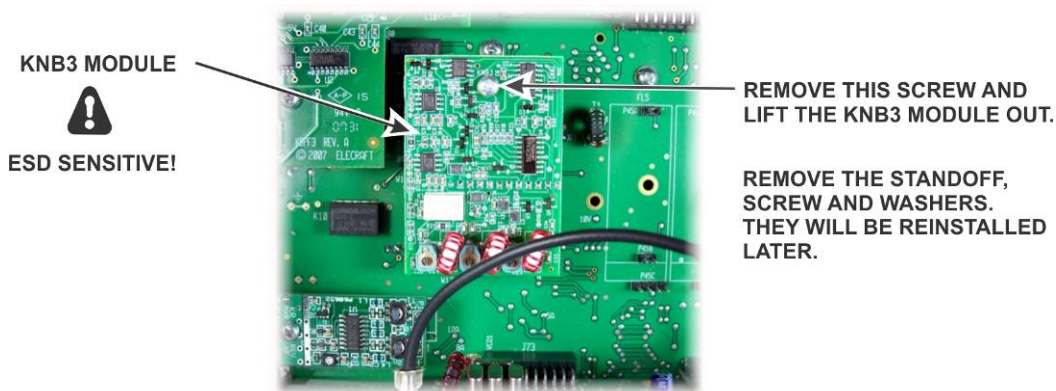

Figure 5. Removing the KNB3 Module.
- ☐ Remove the KNB3 module, the standoff, screw and washers from the RF board (see Figure 5). They will be reinstalled later.
- ☐ Replace the standoff and the KNB3 module you removed earlier (see Figure 5). When mounting the standoff on the RF board, be sure to place one lock washer under the screw head on the bottom of the board, and two lock washers between the standoff and the top of the board. A fourth lock washer goes under the screw holding the KNB3 module itself.